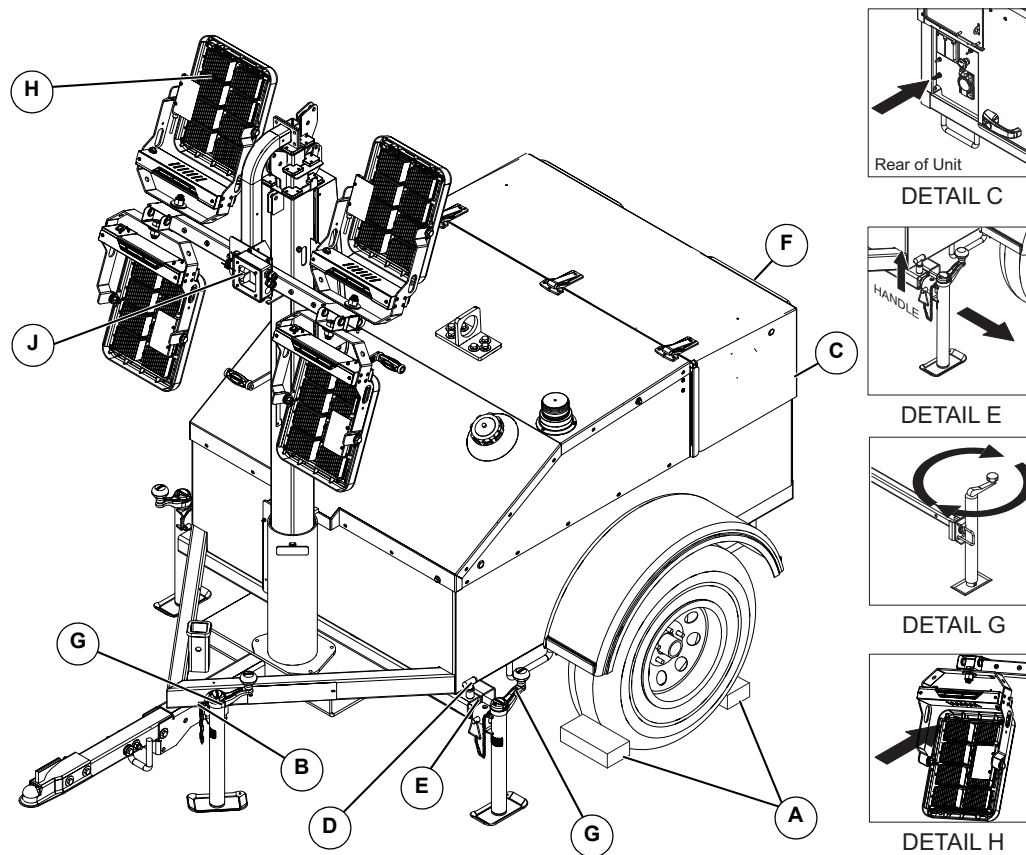

Figure 3-1. Set Up Outriggers and Jacks
2. See Figure 3-1. Place the unit on firm ground that is relatively flat, and then block the wheels (A) to keep it from moving. This will make it easier to level the unit.
3. Pull the locking pin (B) on the tongue jack and rotate the jack 90°. Reinstall the locking pin. Turn the jack handle clockwise to raise the trailer tongue off of the towing vehicle.
4. A grounding stud (C) is located on the control box. For grounding requirements, follow any local, state, or National Electrical Code (NEC) guidelines.
5. See Detail E. Pull the locking pin (D) on the outrigger (E) and pull each outrigger out until the spring loaded locking pin snaps back into place. Pull the locking pin on the outrigger jack and rotate each jack 90° so the jack pad is facing down. Reinstall the locking pin.
6. Pull the locking pin on the rear jack (F) and rotate the jack 90°. Reinstall the locking pin. Rotate the jack handle clockwise to start leveling the trailer (see Detail G). Adjust all four jacks by rotating their handles (G) clockwise until they are firmly in contact with the ground and the trailer is as level as possible.